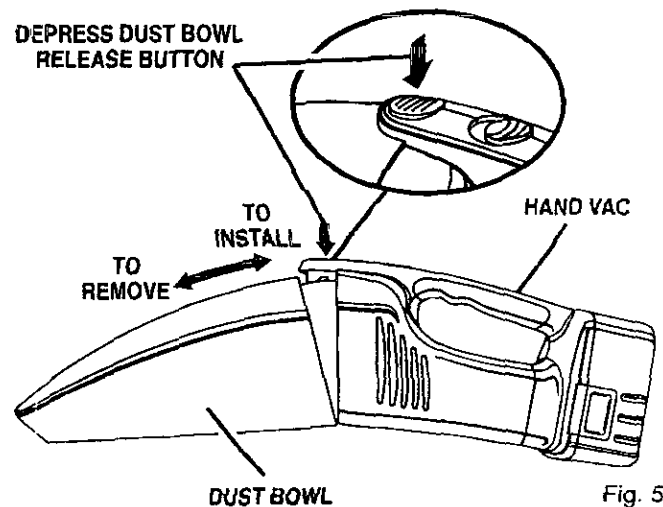

Fig. 5
See Figures 5, 6, and 7.
■ Depress dust bowl release button located on top of hand vac then pull bowl down and out as shown in Figure 5.